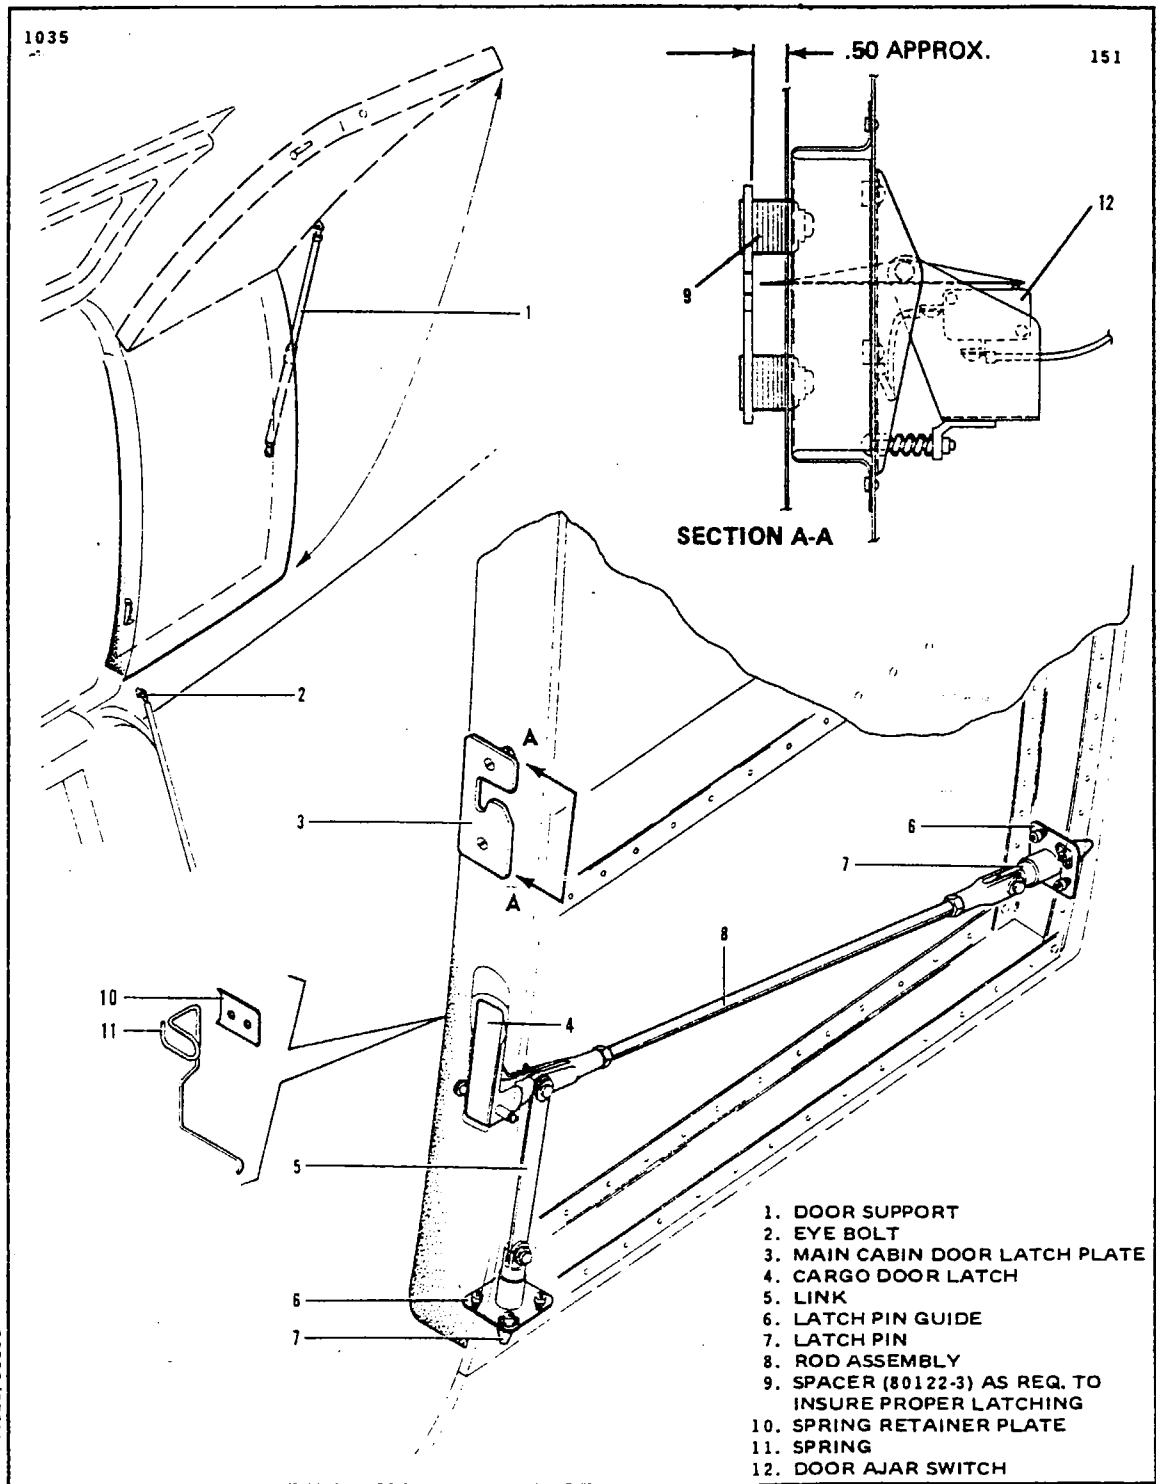

Figure 4-13. Cargo Door
4-74. REMOVAL OF CARGO DOOR. (Refer to Figure 4-13.)
- a. Remove the lock pin holding the upper and lower cable assemblies together on the right side of the cabin entrance door. Position the clevis of the lower cable assembly onto the eye bolt located directly below the cargo door (Figure 4-13, Item 2) and insert the lock pin.
4-75. INSTALLATION OF CARGO DOOR. (Refer to Figure 4-13.)
4-77. REMOVAL OF CARGO DOOR LATCH ASSEMBLY. (Refer to Figure 4-13.)
4-78. INSTALLATION AND ADJUSTMENT OF CARGO DOOR LATCH ASSEMBLY. (Refer to: Figure 4-13.)